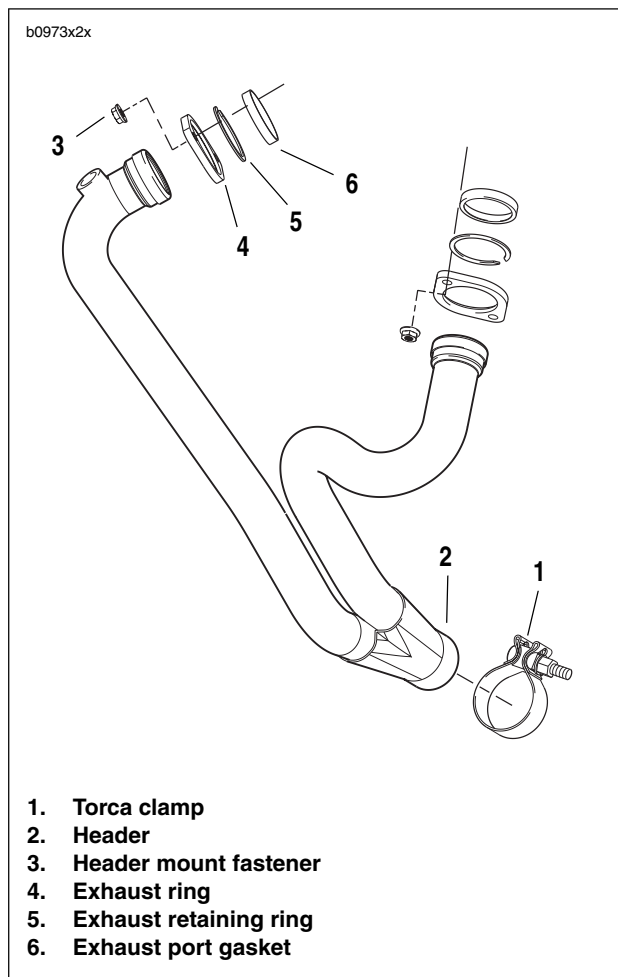

Figure 2-105. Exhaust Header
**Rear:** Alternately loosen rear strap fasteners (1) and remove straps (2).
7. See Figure 2-105. Loosen Torca clamp (1) and remove muffler.
3. See Figure 2-105. Remove exhaust header (2) by removing mounting fasteners (3).
4. Remove exhaust ring (4), retaining ring (5) and port gasket (6).
1. See Figure 2-105. Install exhaust ring (4), retaining ring (5) and **new** port gasket (6).
2. Install exhaust header (2). Tighten mounting fasteners (3) to 72-96 in-lbs (8-11 Nm).
5. See Figure 2-105. Tighten the Torca clamp (1) to 40-45 ft-lbs (54-61 Nm).